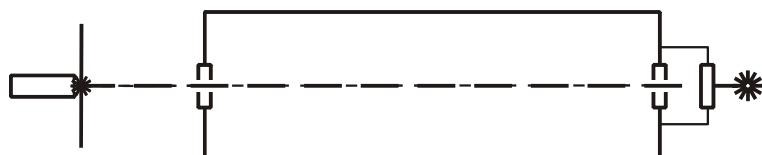

Figure 109: Alignment laser reflections on card (optics aligned)
9. Adjust the HR rear mirror and output coupler perpendicular to the optical axis. The back reflex has to be colinear with the alignment laser beam as shown in Figure 109.